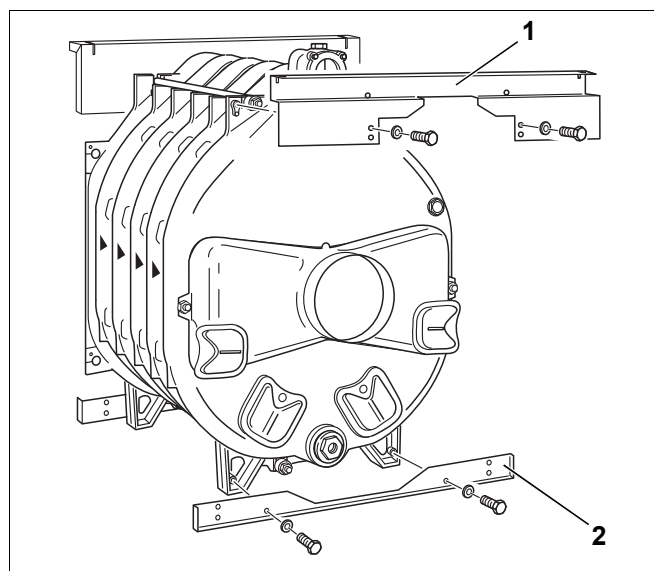

Fig. 31 Installation of the rear support brackets
- Secure the upper rear support bracket (Fig. 31, [1]) on the cast lugs and with screws (M 8 x 15) on the rear section. The edge of the front upper support bracket must point **to the front**.
- Secure the lower support bracket (Fig. 31, [2]) with two screws (M 8 x 15) to the feet of the rear section. The edge of the lower support bracket must point to the rear.